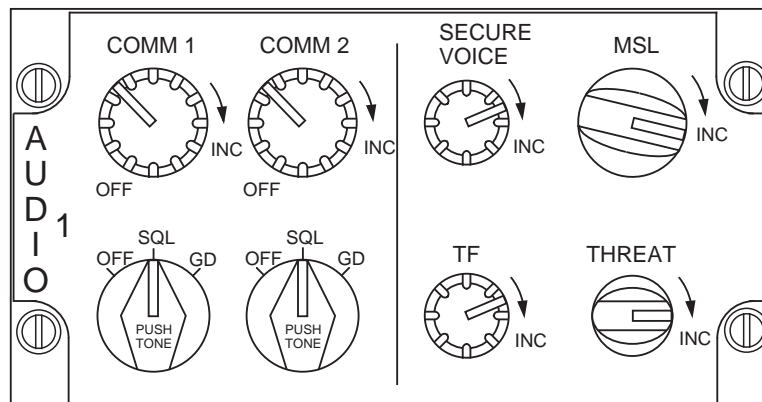

Figure 1-44 Audio 1 Panel
**Audio Panel:** The AUDIO 1 Panel (Figure 1-44) provides power to the radios and controls other less frequently used communications and audio functions. The COMM 1 switch controls UHF radio power and volume. Rotating the switch clockwise out of the OFF position applies power to the radio and increases UHF radio volume.
the AUDIO 1 Panel (Figure 1-44) and the UFC serve the same control functions for the VHF radio as COM 1 does for UHF.